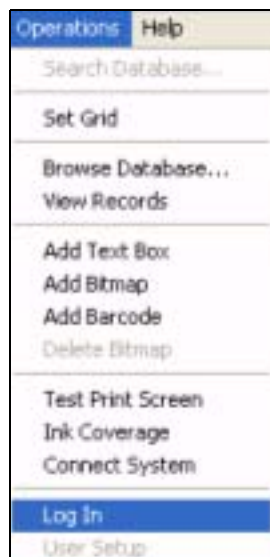
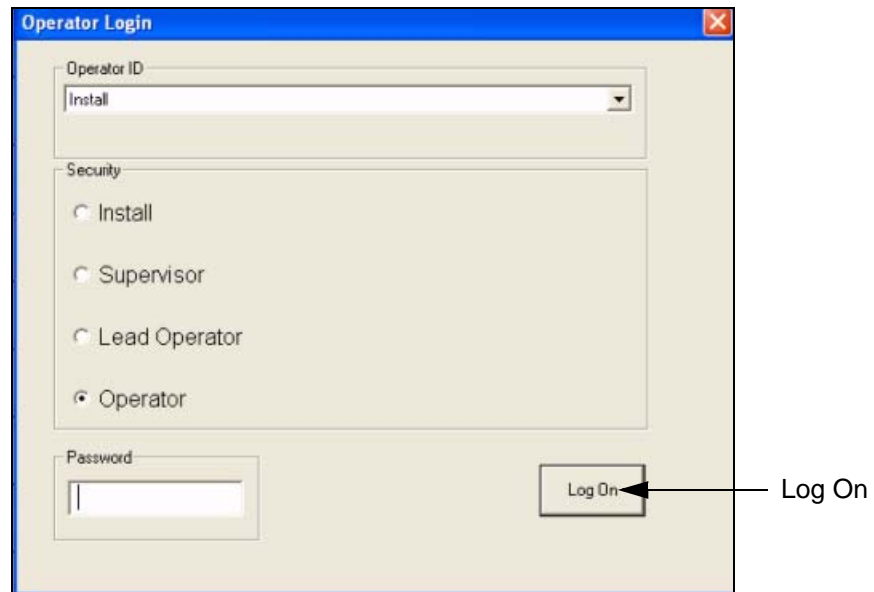
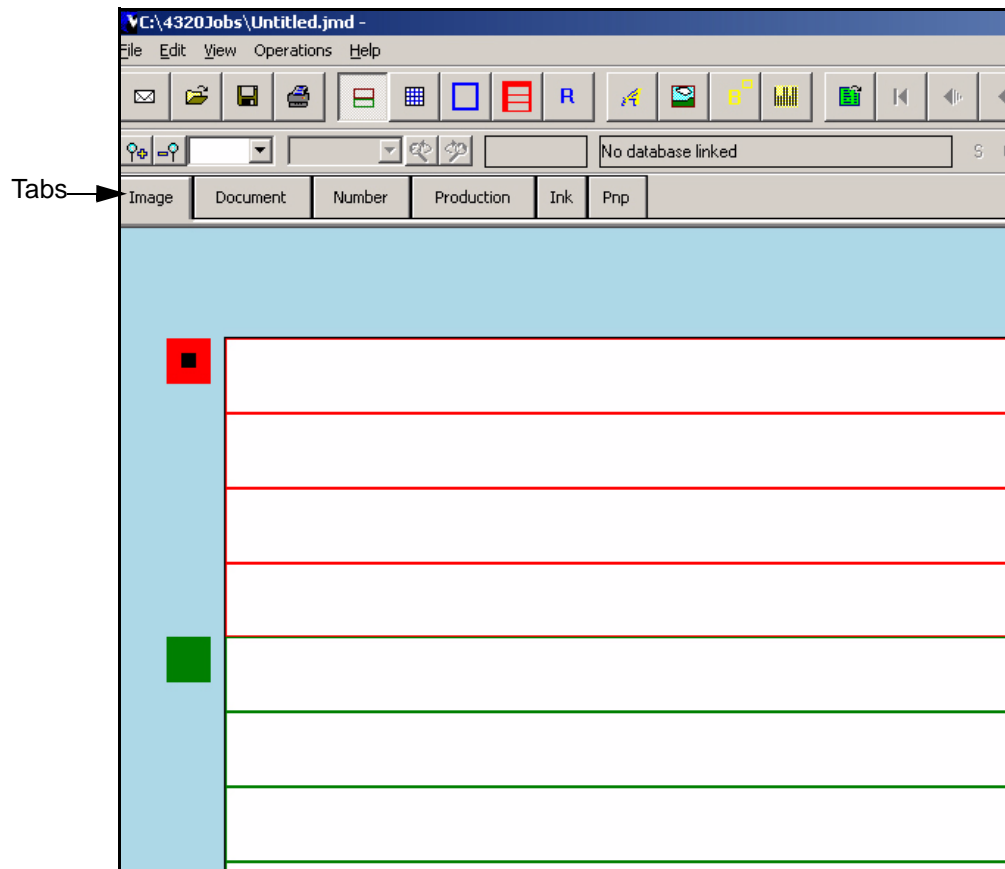

Figure 4-3: Log In
Figure 4-4: Operator Login Screen
Figure 4-5: New Document
- 5 Navigate to *Operations > Log In* (see Figure 4-3). The *Operator Login* screen appears (see Figure 4-4).
- 7 Click the *Log On* button (see Figure 4-4). A new document is loaded automatically (see Figure 4-5 on page 4-4).